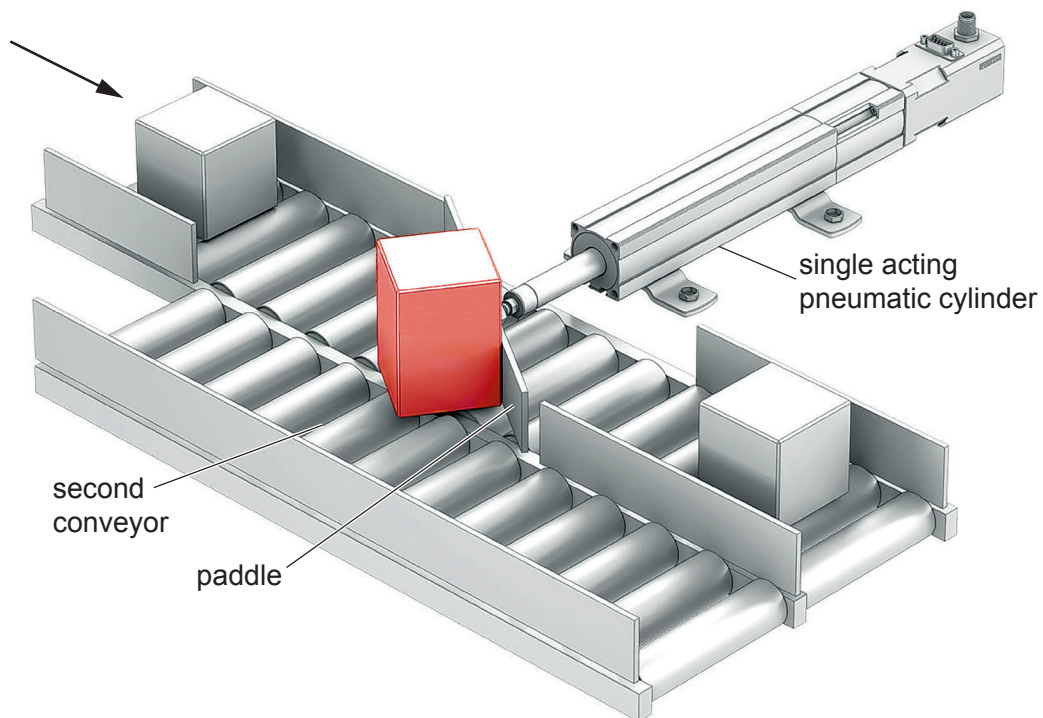

Fig. 4.1
- 4 (a) Fig. 4.1 shows a conveyor system used to sort different boxes using a single acting pneumatic cylinder.
- (i) Identify **two** advantages of using a single acting pneumatic cylinder compared to a double acting pneumatic cylinder to push boxes to a second conveyor as shown in Fig. 4.1.
As a reminder here is **Fig. 4.1**: